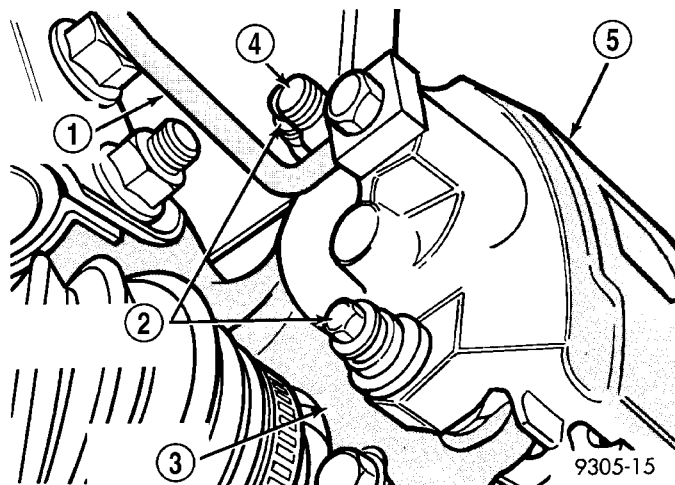

Fig. 3 Disc Brake Caliper Mounting
(1) Raise vehicle on jackstands or centered on a frame contact type hoist.
(2) Remove the front wheel and tire assembly from the vehicle.
(3) Remove the front caliper assembly from the front steering knuckle assembly (Fig. 3).